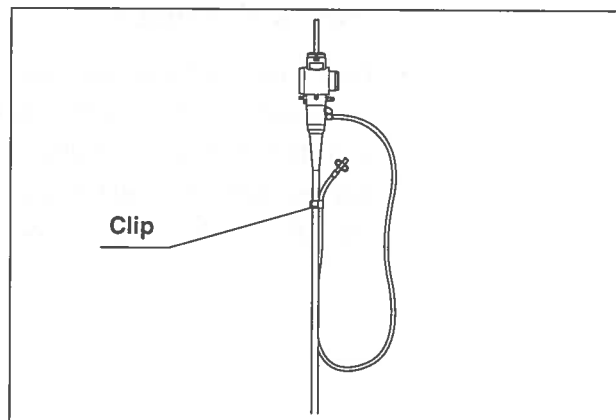

Figure 4.5
2. When carrying the endoscope with the auxiliary water tube connected to the auxiliary water inlet, attach the clip of the auxiliary water tube to the universal cord (for GIF-XTQ160, CF models only, see Figure 4.5).